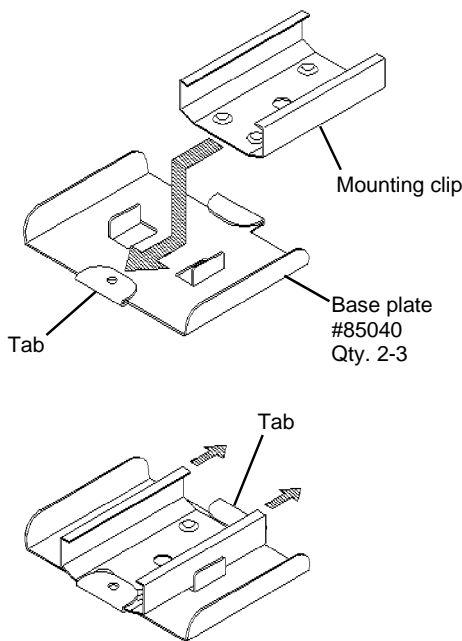

Figure 1
1. Install the **Mounting Clip** onto the **Base Plate** by first slipping one end of the Clip under the tab marked "X" on the Plate. Force the Clip under the tab as far as possible; the other end of the Clip will then be able to slip under the opposite tab. See **Figure 1**.